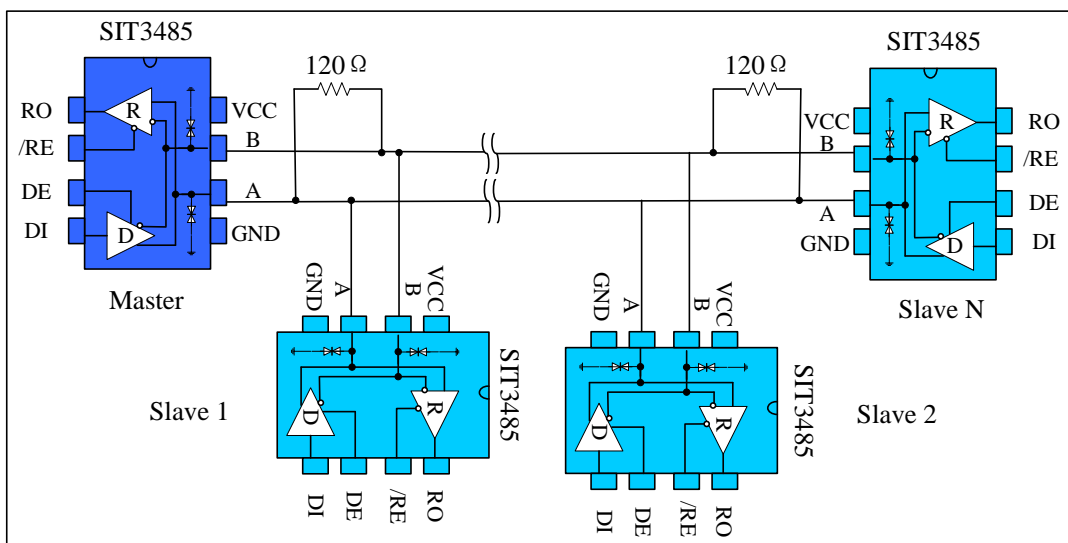

Figure 9 Backbone cable type RS485 communications network
4.1 Backbone cable type: SIT3485 transceiver is designed for multi-point bi-directional data communication bus transmission lines. Figure 9 shows a typical network application circuit. These devices can also be used as a cable longer than 4,000 feet of line repeater, to reduce the reflection, the transmission line should be in its ends terminated in its characteristic impedance, and stub lengths off the main line should be as short as possible.